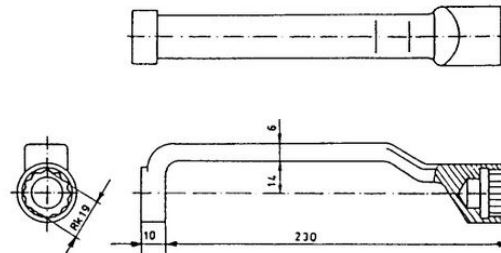

Fig. 60. Special wrench
Before tightening of a flange place a TDC mark of a flywheel before a suitable mark on a housing. Then turn a flywheel for 90° anticlockwise to avoid rocker damage during tightening of a flange. After such preparation you can start with tightening of a head flange. Perform this operation in three steps, an initial and a final tightening of peripheral bolts, and then tightening of central nuts, using a special tool (Fig. 60). Tightening torque for bolts and nuts should be 34 ... 44 N·m. Lubricate a camshaft cams with an engine oil.
- Clean a ring seat and place a new ring inside; before placing lubricate a crankshaft journal with an engine oil; if a journal surface shows wear in place of contact with a sealing ring shift a ring within allowed axial play limits. Remember to secure a proper ring position. It should be positioned in a plane perpendicular to a journal axis. For positioning of ring use a mandrel shown in Fig. 60.